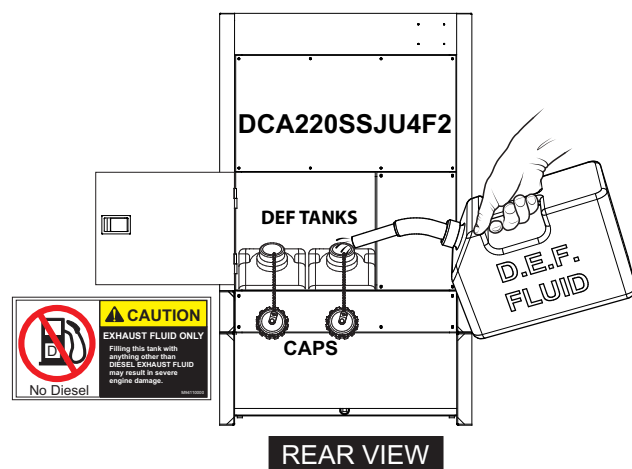

Figure 43. DEF Tank Filling (DCA220SSJU4F2)
2. For DCA220SSJU4F2 generators, open the **enclosure rear door**, remove the filler caps from both DEF tanks (Figure 43), and fill with DEF fluid.